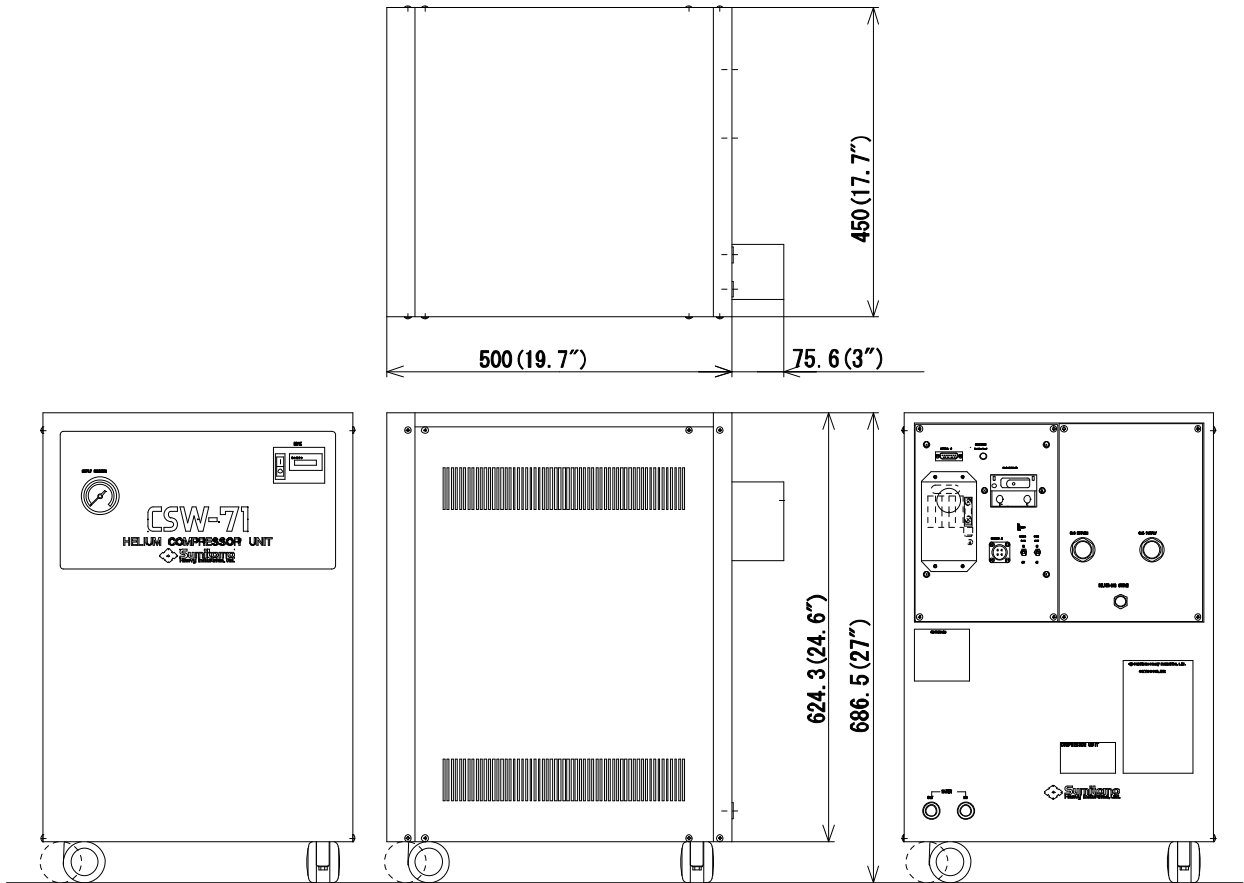

Figure 1.2 OUTLINE VIEW FOR COMPRESSOR UNIT MODEL CSW-71C
* Input Power Cable Terminal Cover is 98.0 mm. See the **Figure 1.2**.